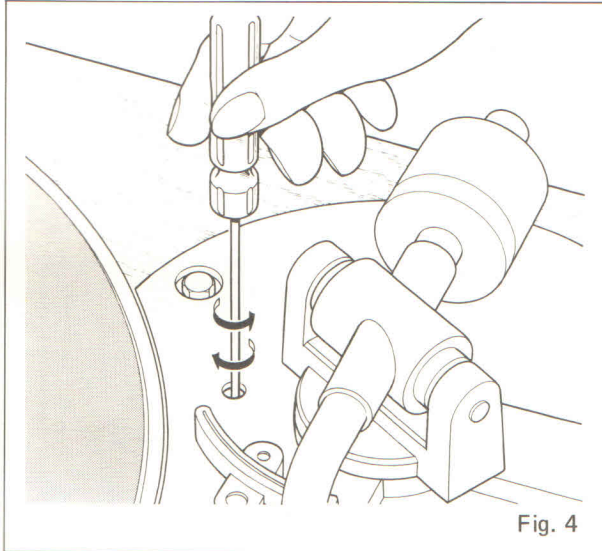

Fig. 4
- (1) If at LEAD-IN, the stylus tip descends outside the lead-in groove, correct this by turning the LEAD-IN Adjust Screw clockwise. (See Figs. 4 & 5.)
- (2) If at LEAD-IN, the stylus tip descends to a position inside the proper LEAD-IN position, correct by turning the Lead-In Adjust Screw counterclockwise.